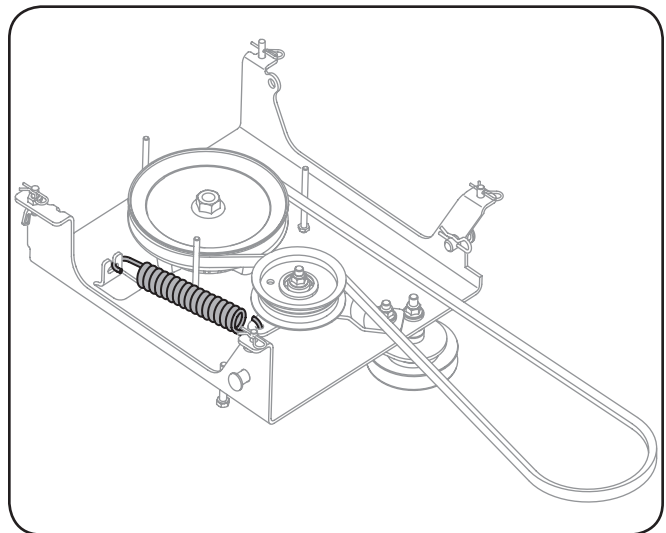

Figure 3-1
1. Attach one end of the short extension spring (found in the hardware pack) to the hole in the idler assembly. Mount the opposite end of the extension spring to the slotted fitting as illustrated in Figure 3-1.